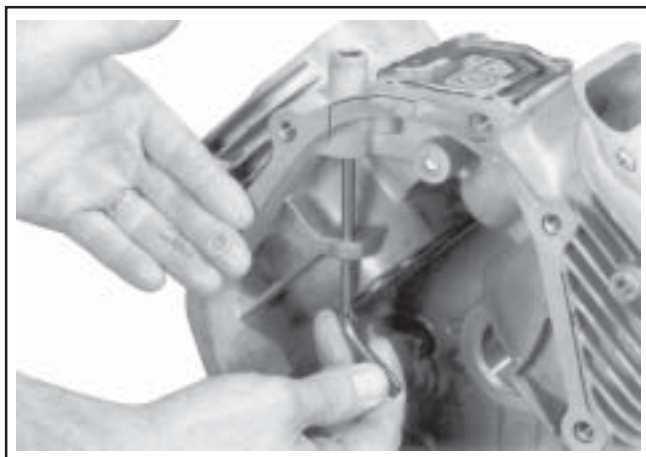

Figure 11-3. Installing 6 mm Governor Cross Shaft.
3. **6 mm Governor Shaft:** Install the plain washer and then insert the hitch pin into the smaller, lower hole of the governor cross shaft. See Figures 11-3 and 11-4.